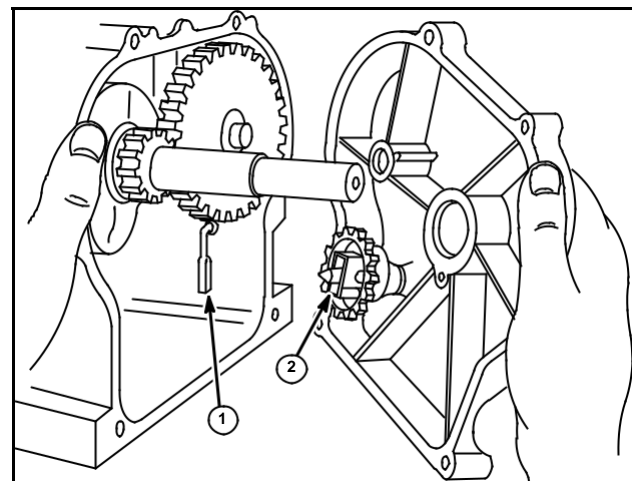

Fig. 13
The only disassembly necessary is removing the governor assembly as one unit from the governor gear shaft on the crankcase cover on horizontal models, Fig. 13. Governor crank should point down (1), as shown.
1. Press governor cup (2), Fig. 13, against crankcase cover to seat retaining ring on shaft, prior to installing crankcase cover.
2. The governor crank should hang straight down parallel to the cylinder axis (1), Fig. 13.